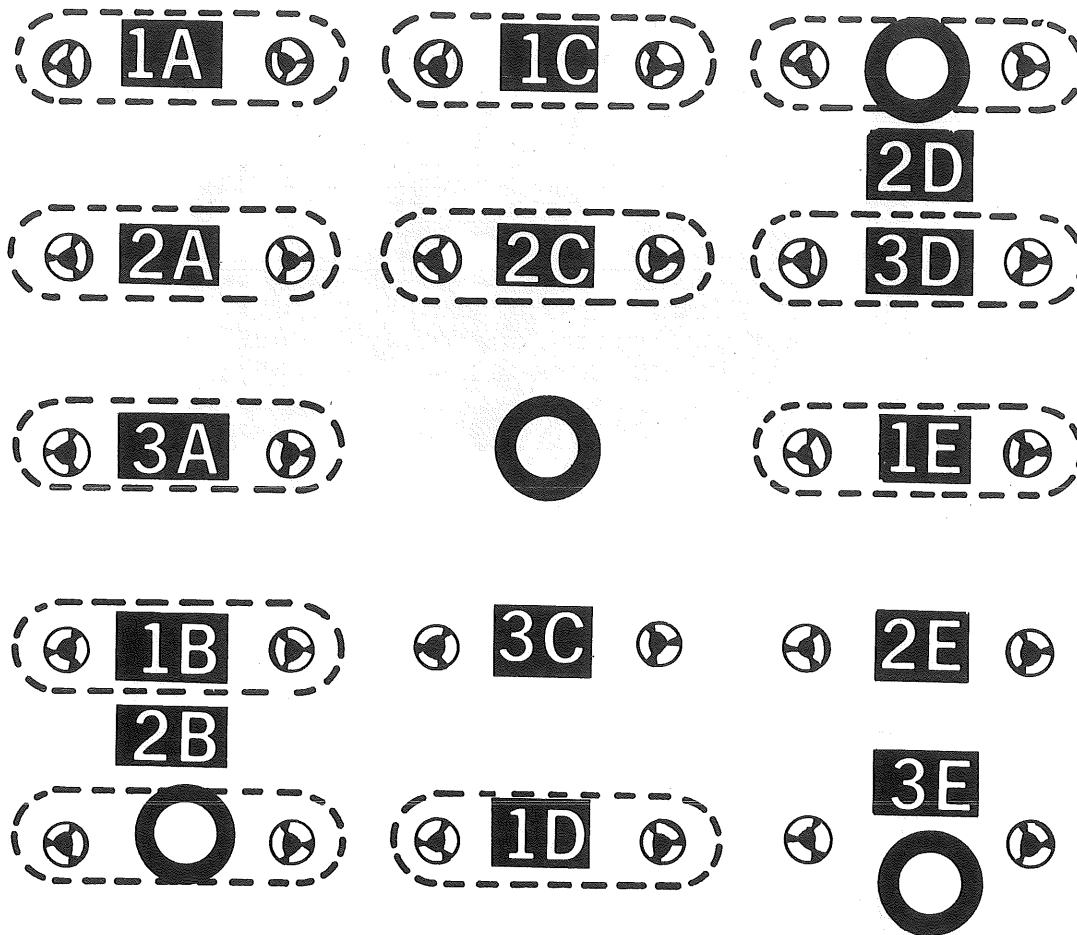

Figure 2. Crystal Socket Locations.
- b. Plug appropriate crystal into crystal mounting board as shown in figure 2.